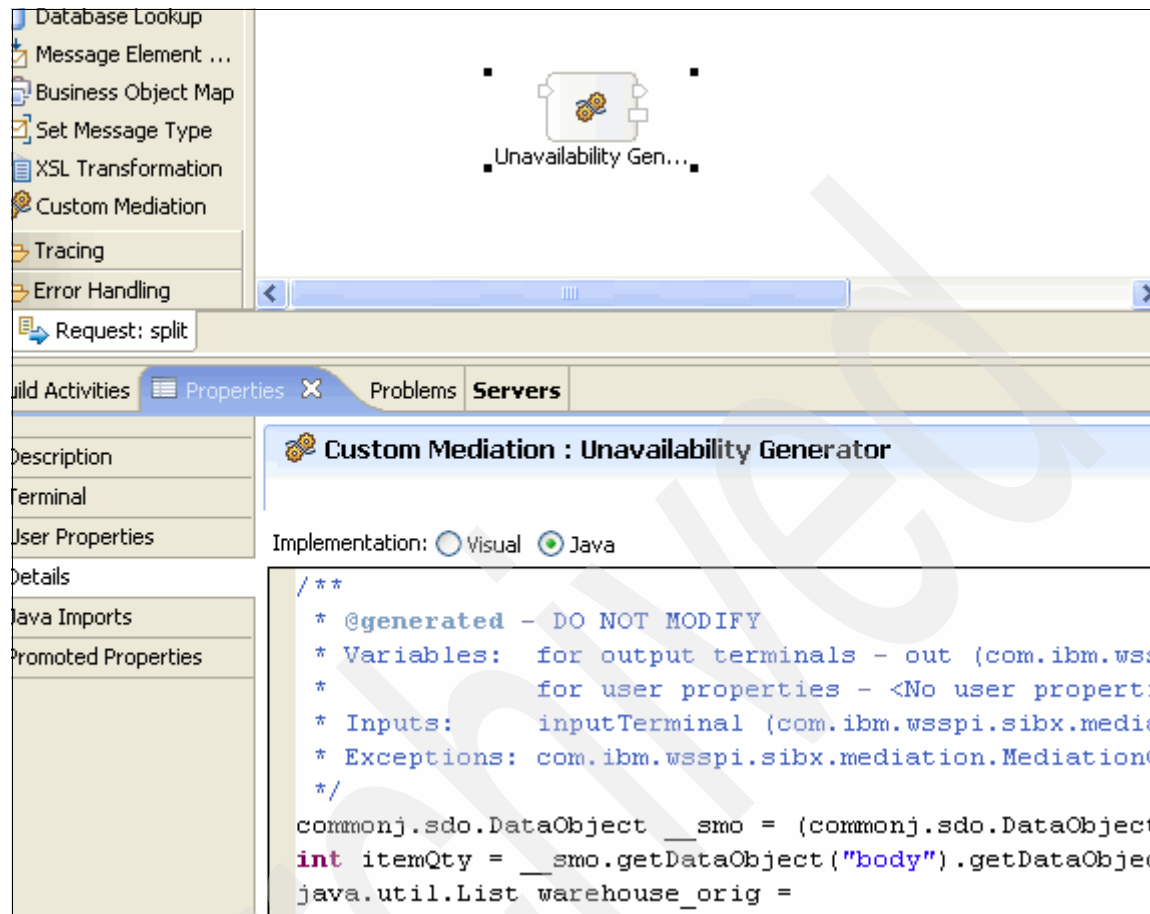

Figure 6-27 Unavailability generator Custom Mediation primitive code
2. Go to the Details pane of the Properties view, and select Java as the implementation, as shown in Figure 6-27 on page 376.